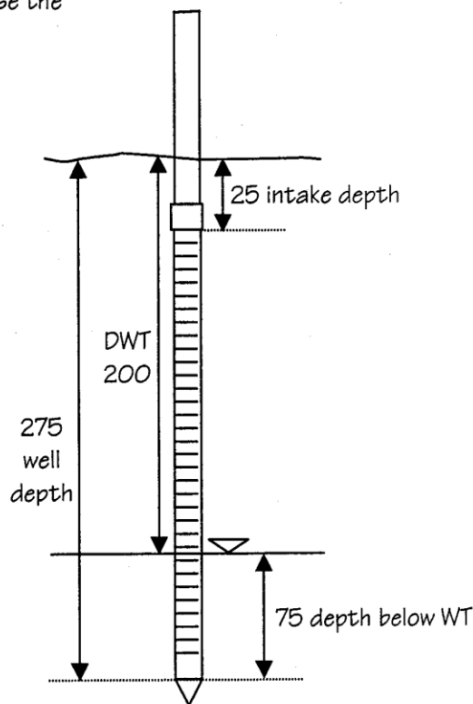

Figure 3. Determine intake length. For example, if DWT = 200 cm, cut 250 cm of screen length.
- Determine the intake length based on the DWT. Try to extend the well ~ 75 cm below the WT (more if WT is not near baseflow). The intake should end up ~ 25 cm below ground. So, cut the screened PVC to the DWT plus 50 cm (Fig. 3). It's best to use the pipecutter to ensure that connections are tight.